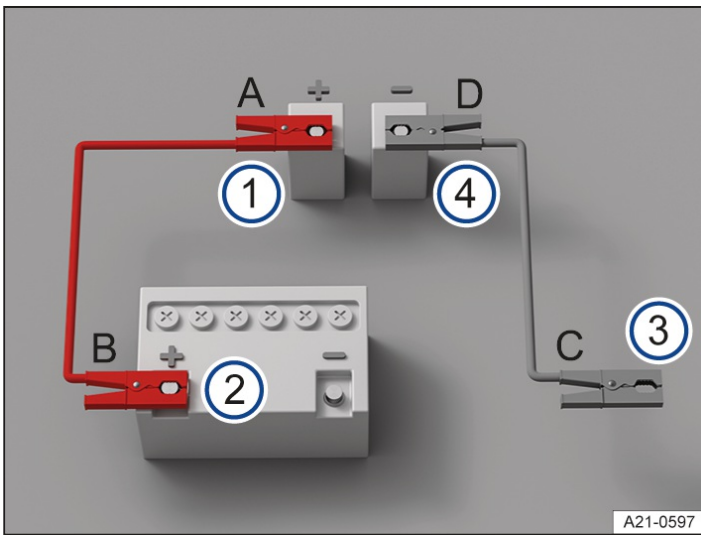

Fig. 2 Diagram showing how to connect jump leads in vehicles with a 12-volt vehicle battery in the vehicle interior.
Connect the jump leads only in the order A – B – C – D → Fig. 2.
3. Connect one end of the red jump lead to the positive jump-start connection point(+) of the vehicle with the discharged 12-volt vehicle battery → Fig. 2 ① → ⚠.
4. Connect the other end of the red jump lead to the positive battery terminal(+) of the vehicle providing assistance → Fig. 2 ②.
5. Connect one end of the black jump lead preferably to an earth jump-start connection point(-) on the vehicle with the 12-volt vehicle battery providing assistance → Fig. 2 ③.
- Or: if no earth jump-start connection point (-) is present, connect the end of the black jump lead to a solid metal part that is securely bolted onto the cylinder block or to the cylinder block itself on the vehicle with the 12-volt vehicle battery providing assistance → Fig. 2 ③.
6. Connect the other end of the black jump lead to the earth jump-start connection point(-) on the vehicle with the discharged 12-volt vehicle battery → Fig. 2 ④ → ⚠.
3. After jump starting, the jump leads should be removed only in the order D – C – B – A → *Fig. 1* or → *Fig. 2*.